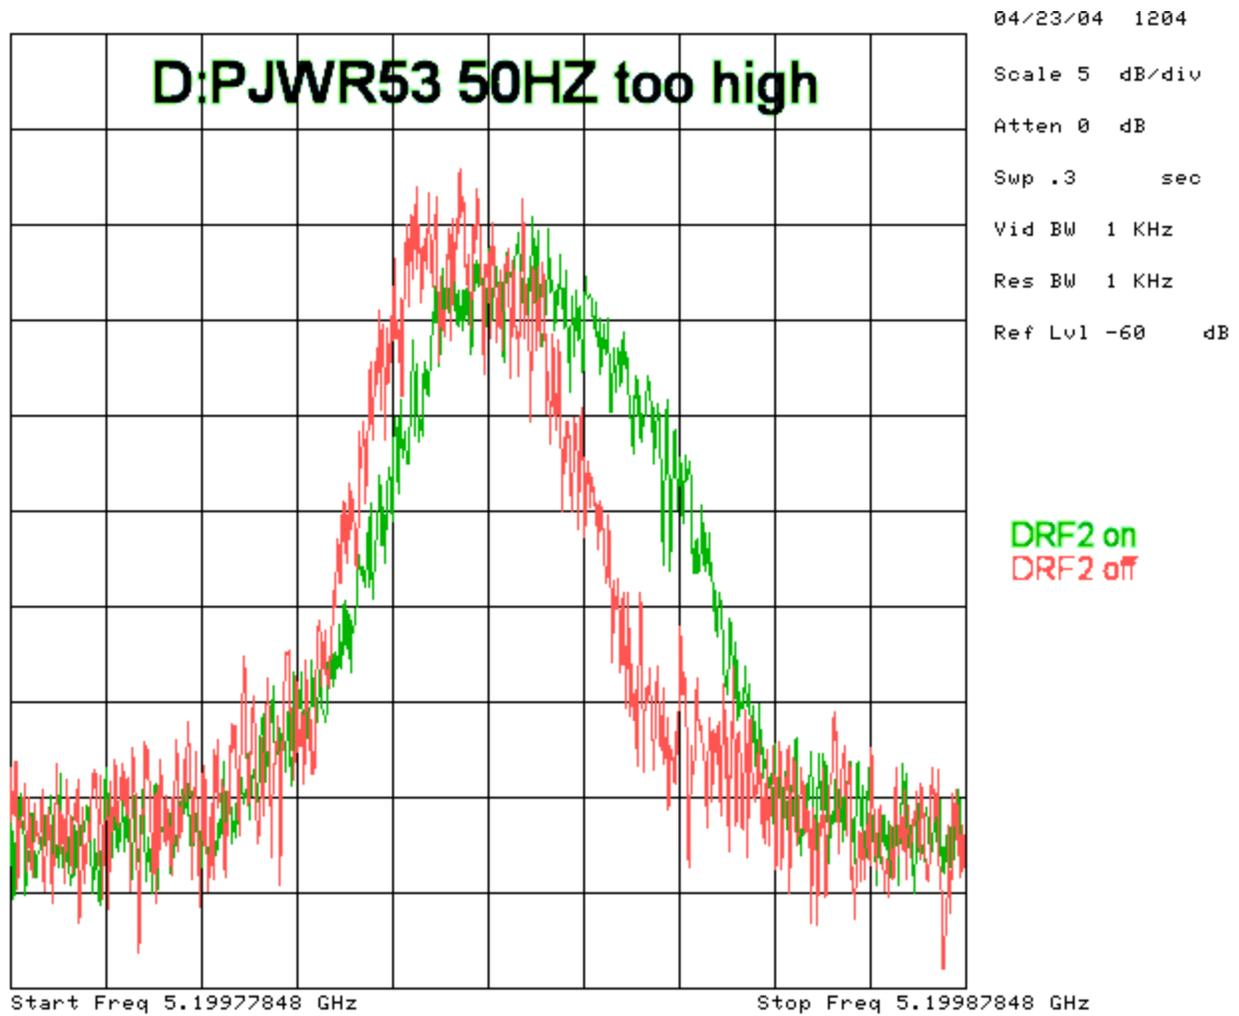
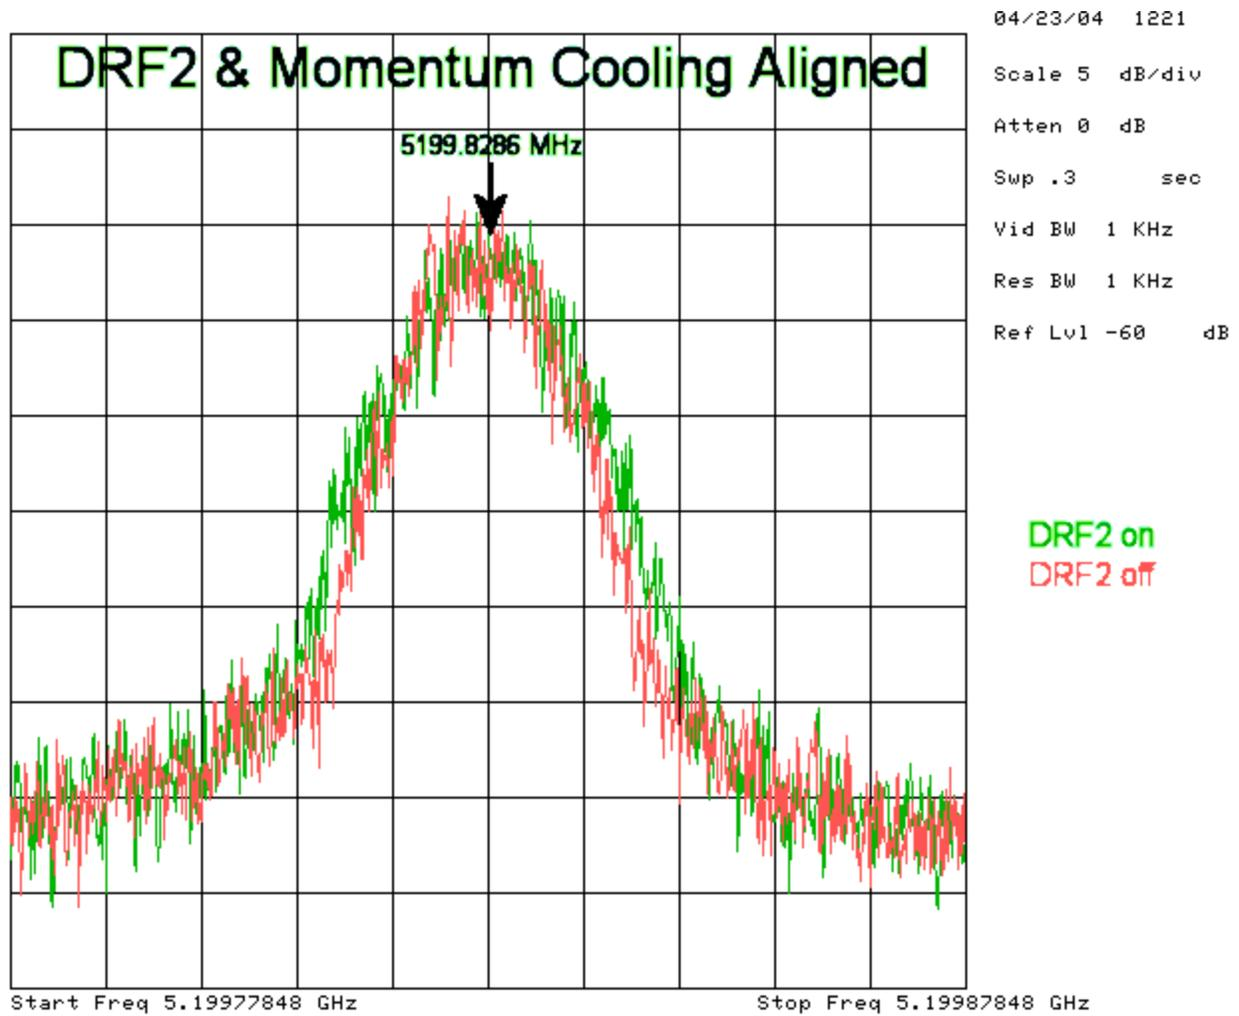
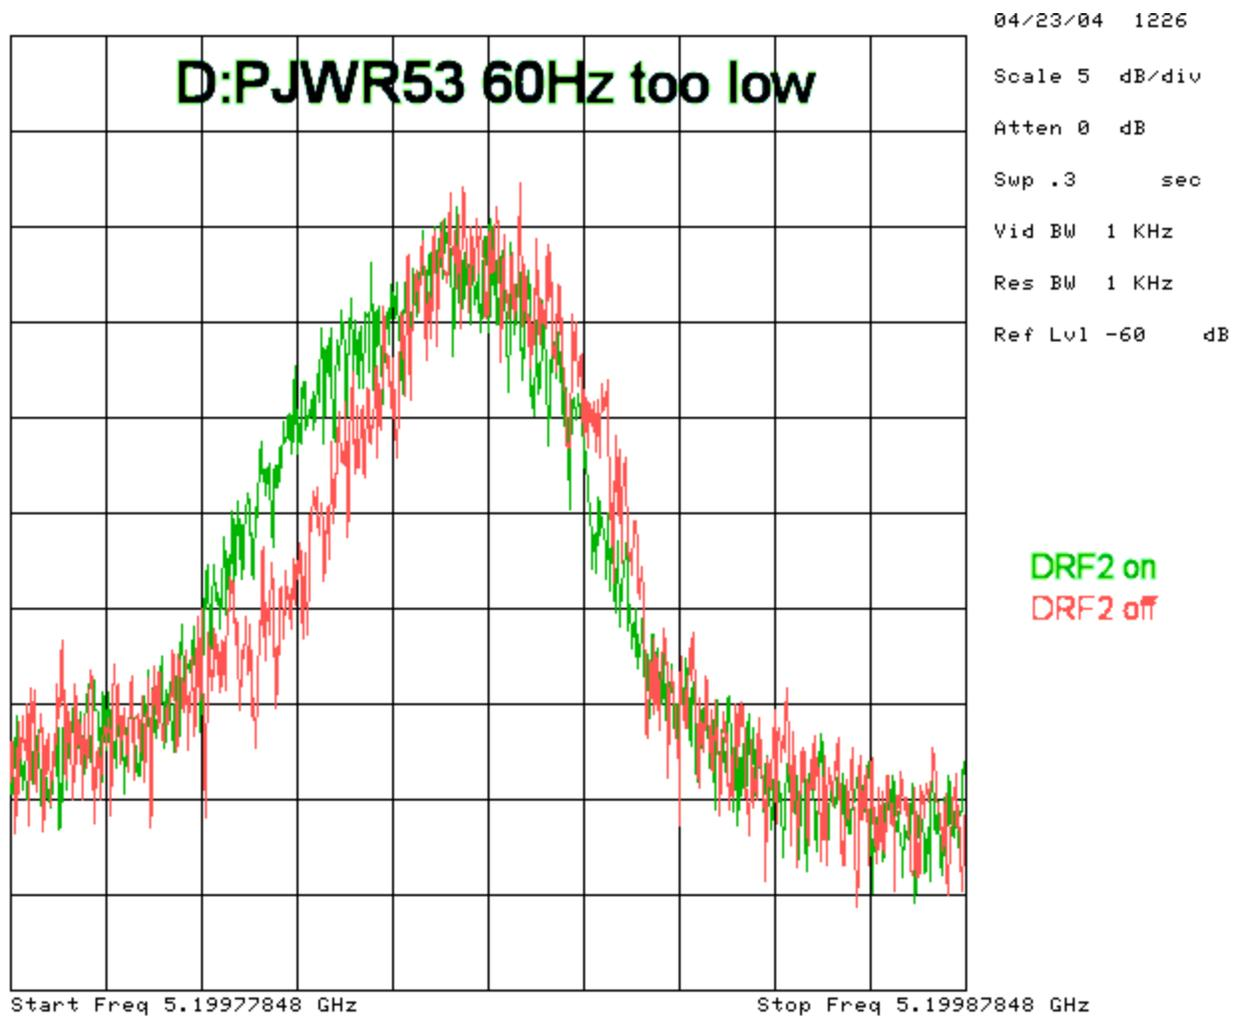

Figure 2: Green trace is with DRF2 on. Red trace is with DRF2 off. In this case D:PJWR53 too high by 50Hz.
Figure 3: Green trace is with DRF2 on. Red trace is with DRF2 off. In this case, D:PJWR53 is set to approximately the correct value.
Figure 4: Green trace is with DRF2 on. Red trace is with DRF2 off. In this case, D:PJWR53 is 60Hz too low.
- f. A plot showing the peaks aligned at 590017 Hz (1 Hz low) is shown below in Figure 4.
In Figure 5, we can see a direct correlation between the quality of DRF2/Debuncher Momentum Cooling alignment and power in the cooling systems. The arrow marked "1" in Figure 4 shows the cooling levels when D:PJWR53 was set 50 Hz too high as in Figure 2. The arrow marked "2" in Figure 6 is where we had made a total of five 10 Hz steps to get the cooling aligned as shown in Figure 3. We can see both the Stacktail and Core
cooling power increased. The timeline only had stacking \$29 events, the rep rate did not change, and beam from Main Injector was stable. This tells us that the beam to the Debuncher was most likely consistent during this time. There were no Accumulator cooling tuning changes made during this time of this study, so the increased power in the cooling system can be assumed to be a result of more beam making it to the Accumulator, which is likely a direct result of our cooling alignment. To demonstrate this, the arrow marked "3" in Figure 6 is the result of moving D:PJWR53 in six more 10 Hz steps (this time too low) to the value shown in Figure 4. The cooling powers both decrease as a result. The arrow marked "4" in Figure 6 is where we put D:PJWR53 back to its optimum value as seen in Figure 3. Again the core cooling power increased showing that more beam was making it to the Accumulator.
Figure 5: Response of Accumulator Cooling to alignment. "1" marks where D:PJWR53 was set too low (Setting shown in Figure 2). "2" marks where D:PJWR53 was aligned (Setting shown in Figure 3). "3" marks D:PJWR53 set too high (Setting shown in Figure 4). "4" marks putting D:PJWR53 back to its aligned value (Setting shown in Figure 3).
In all of the examples to this point, the final alignment is centered on the plot. This puts the cooling at exactly the revolution frequency of the beam (590018 Hz). However, the frequency that the cooling works at drifts as much as one or two hertz over time. Figure 6 below shows the final alignment taken a couple of weeks after the one done in Figure 3. We see that in Figure 6 alignment occurred approximately one box to the left of the center. The peak on the below plot was measured at 5.1998209×10^9 Hz. You can calculate the revolution frequency by dividing the measured frequency by the harmonic number (8813) that the scope is setup to look at. So the cooling is running at $(5.1998209 \times 10^9 \text{ Hz} / 8813) = 590017 \text{ Hz}$, which is one hertz lower than the revolution frequency of 590018 Hz. If the peak drifts more than one and a half boxes from the center ($> 1.65 \text{ Hz}$ high or low), a Pbar expert should be consulted for further instructions. A move of more than this might indicate a problem with the cooling and correcting with the RF may lead to problems with D-to-A transfer efficiency. Plotting and data logging the Debuncher cooling oven temperature D:POVTMP would be a good start if this appears to be the problem.